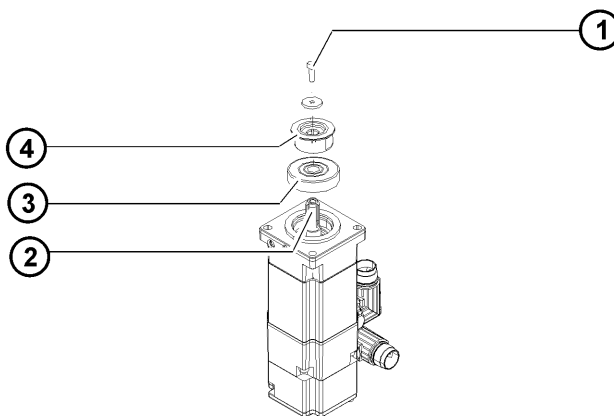

Fig. 11-26: Motor with toothed belt pinion
5. Remove the Allen screw (>>> Fig. 11-26) and take off the disc.